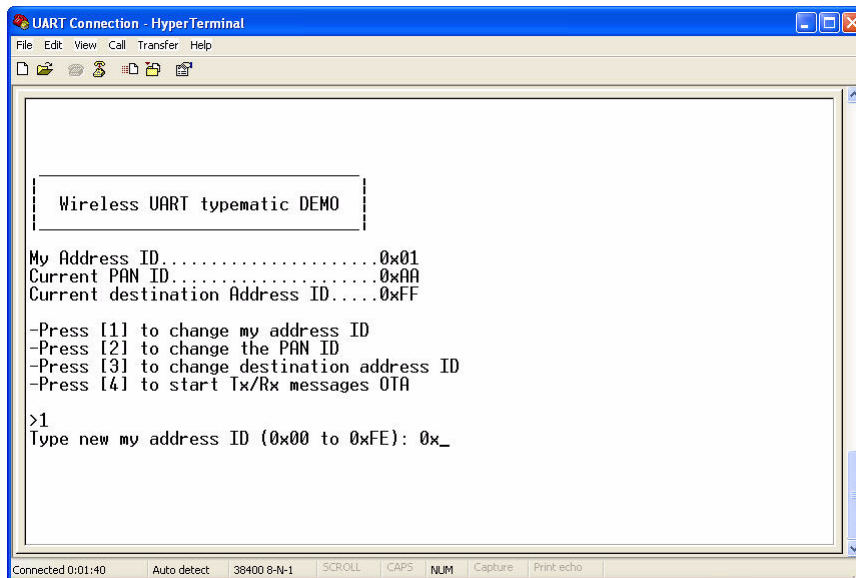

Figure 2-2. My Address ID String
1. To change the My Address ID value, press "1" from the main menu screen and the My Address ID string appears as shown in Figure 2-2.